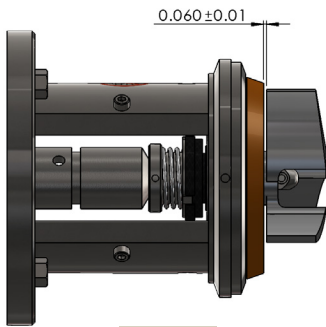

Figure No. 6
1. Install the adapter onto the motor using (4) bolts and (4) lock washers. For BP441 and 641 models add adapter pins.
- d. Using feeler gauge between back plate and impeller position stub shaft so that the gap is equal to $.060'' \pm .010''$. (see figure no.6)